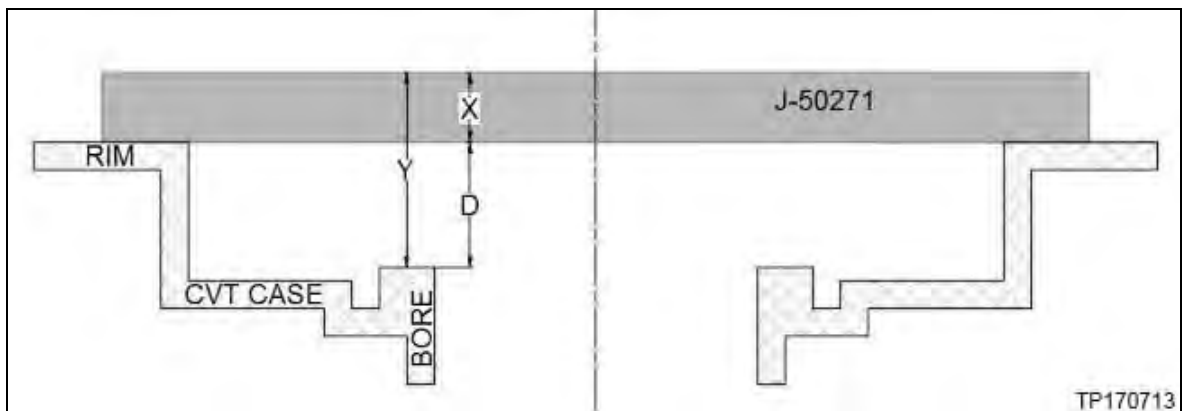

Figure 5M
**NOTE:** Only if a Gauge Block (J-50271) is not available, measurement "X" (Figure 5M, page 60) will need to be determined for the measuring bar being used. This can be done either with a set of calipers or with Digital Depth Gauge (J-50272).
8. Measure the average distance (Y) shown in Figure 5M as follows: